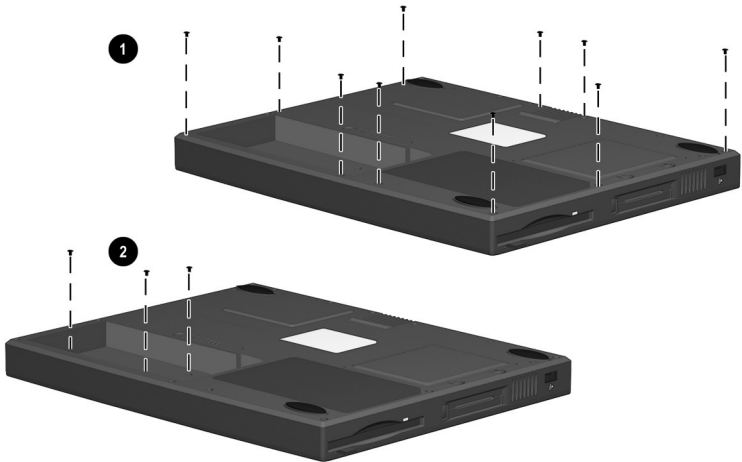

Figure 5-15: Removing the Top Cover Screws
3. Remove the 10 M2.5 $\times$ 7 screws ❶ and the three M2.5 $\times$ 4.5 screws ❷ securing the top cover to the base enclosure (Figure 5-15).